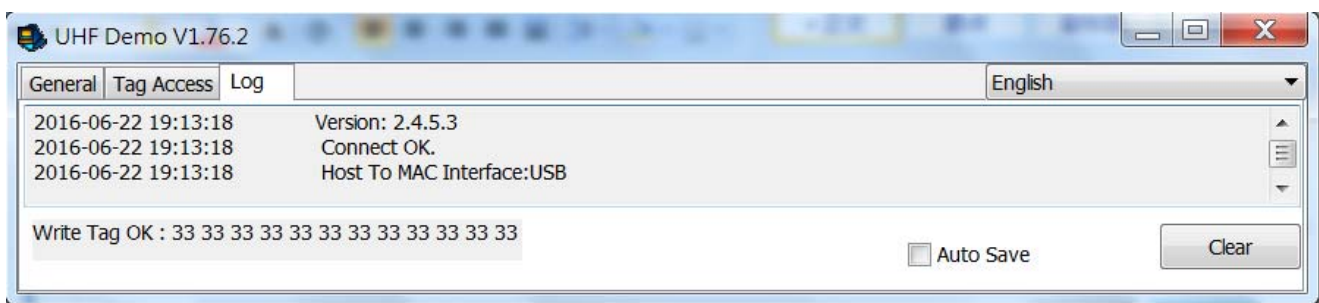

Figure 2.12
- A. Click on the “Log” button enter into operation can check card device operation records; As shown in figure 2.12: